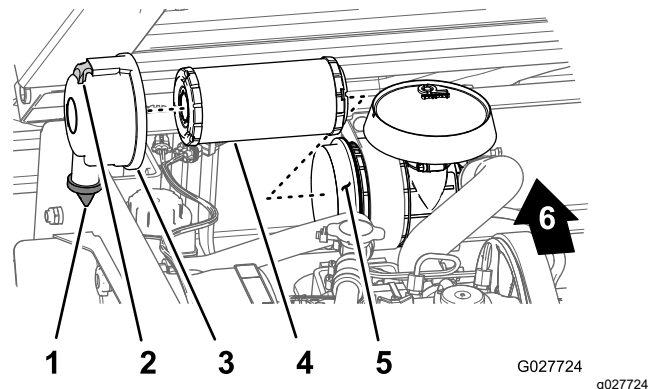

Figure 28
2. Check the air-filter body for damage that could possibly cause an air leak (Figure 28).
3. Pull the latch outward and rotate the air-filter cover counterclockwise (Figure 28).
5. Gently slide the air-filter element out of the air-filter housing (Figure 28) to reduce the amount of dust dislodged.
1. Clean the dirt-ejection port located on the air-filter cover (Figure 28).
2. Remove the rubber outlet valve from the cover, clean the cavity, and replace the outlet valve (Figure 28).
3. Insert the air-filter element into the air-filter housing by applying pressure to the outer rim of the element to seat it into the air-filter housing (Figure 28).
4. Align the air-filter cover with the air-filter housing with the rubber outlet valve in a downward position (approximately between the 5 o'clock and 7 o'clock positions when viewed from the end) as shown in Figure 28.
5. Secure the cover to the housing with the latches (Figure 28).